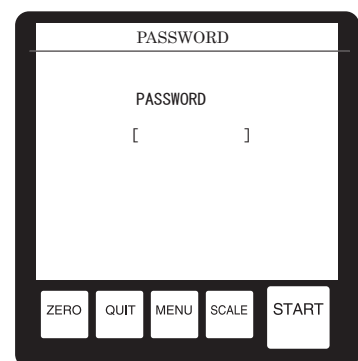

Fig.7-3
c) The "PASSWORD" entry screen will be displayed (Fig.7-3).